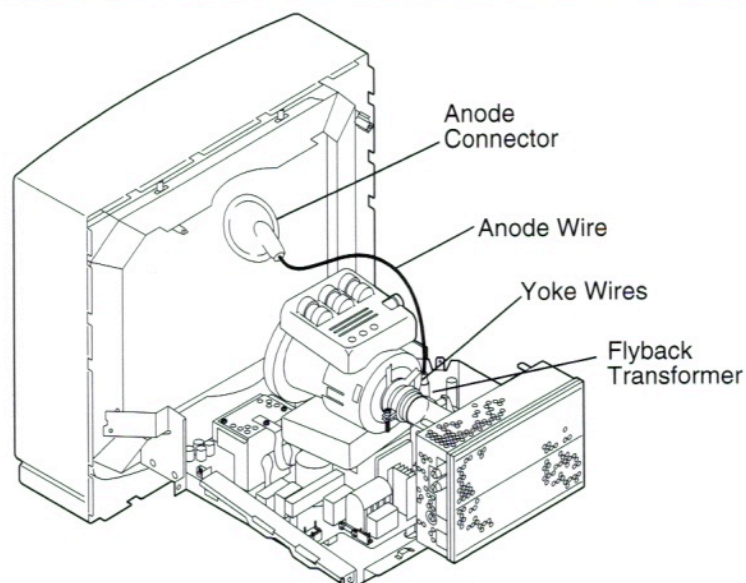

Figure 9. Apple Multiple Scan 17 Video Adjustments
1. Press the right side (up arrow) of the button (see Figure 9) to increase the brightness.
2. Press the left side (down arrow) of the button (see Figure 9) to decrease the brightness.
1. Press the left side of the button (see Figure 9) to decrease the contrast.
1. Press the select button (marked with "⌘") to turn on the centering indicator light (see Figure 9).
2. Press the up or down button on the brightness controls (see Figure 9) to move the center of the picture up or down.
2. Press the left or right button on the contrast controls (see Figure 9) to move the center of the picture left or right.
1. Press the select button (marked with “⌘”) repeatedly until the size indicator light (see Figure 9) goes on.
2. Press the up or down button on the brightness controls (see Figure 9) to increase or decrease the size of the picture.
2. Press the left or right button on the contrast controls (see Figure 9) to decrease or increase the size of the picture.
1. Press the select button (marked with “⌘”) repeatedly until the rotation indicator light goes on (see Figure 9).
2. Press the up button on the brightness controls (see Figure 9) to tilt the picture clockwise.
3. Press the down button on the brightness controls (see Figure 9) to tilt the picture counterclockwise.
2. Press the left button on the contrast controls (see Figure 9) to bring in the sides of the picture.
3. Press the right button on the contrast controls (see Figure 9) to expand the sides of the picture.
1. Press the select button (marked with “⌘”) repeatedly until the convergence indicator light goes on (see Figure 9).
3. Press the down button on the brightness controls (see Figure 9) to move the red signal down and the blue signal up.
3. Press the right button on the contrast controls (see Figure 9) to move the red signal to the right and the blue signal to the left.
1. Press the select button (marked with “⌘”) repeatedly until the color temperature indicator light (see Figure 9) goes on.
2. Press the left button on the contrast controls (see Figure 9) to decrease the color temperature.
3. Press the right button on the contrast controls (see Figure 9) to increase the color temperature.
Use a straightened paper clip to push in the reset button (see Figure 9).
1. Press the select button (marked with an “⌘”) repeatedly until the indicator light of the picture control you want to reset (vertical or horizontal center, convergence, or color temperature) goes on (see Figure 9).
2. Use a straightened paper clip to push in the Reset button (see Figure 9).
While holding down the control button, push in the Reset button with a straightened paper clip (see Figure 9).